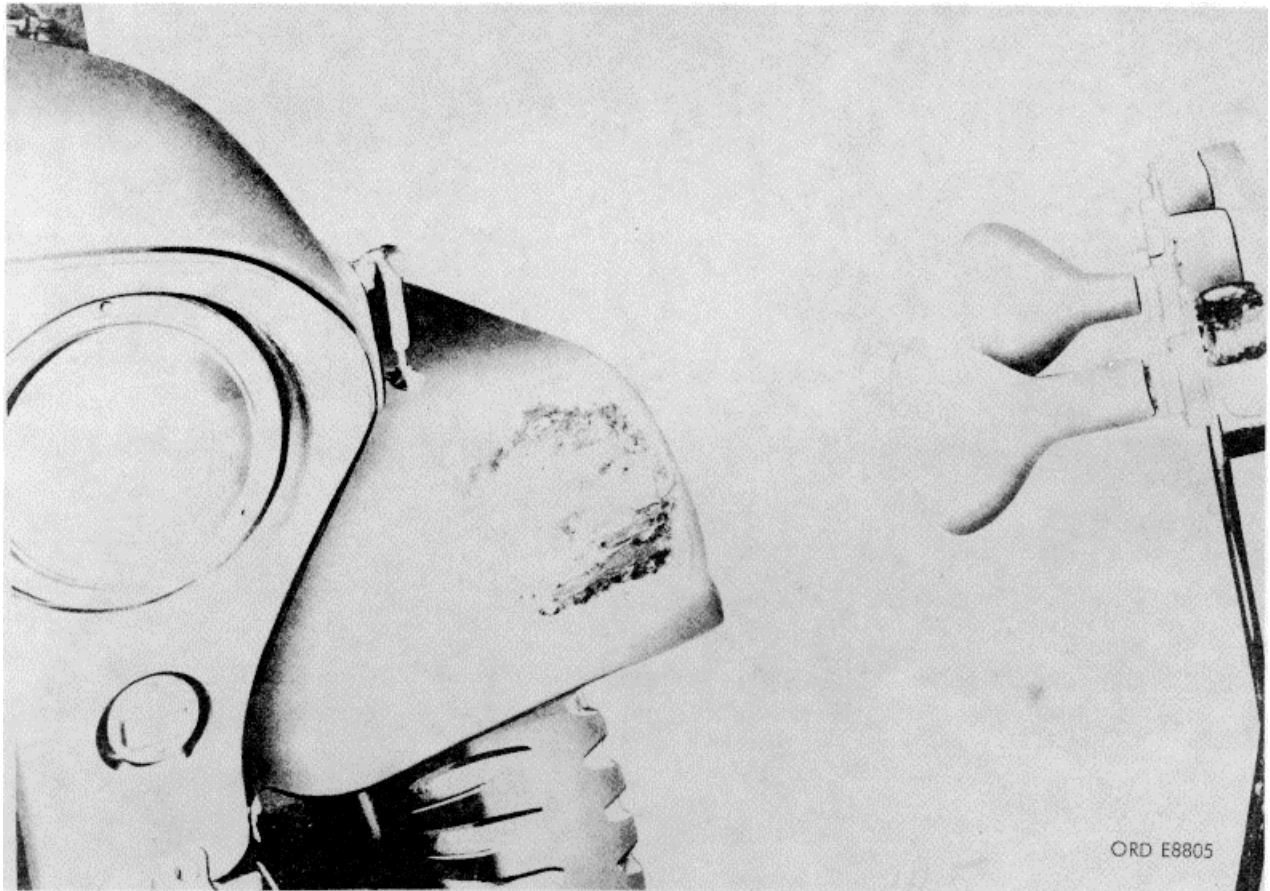

Figure 8. Heat lamps curing Epoxy plastic.
a. Heat lamps at a distance of 10-12 inches (fig. 8) from the repaired area; time 7 minutes. This is the preferred method. Heat lamps set closer than 10-12 inches may generate air bubbles resulting in pitting in the repair area